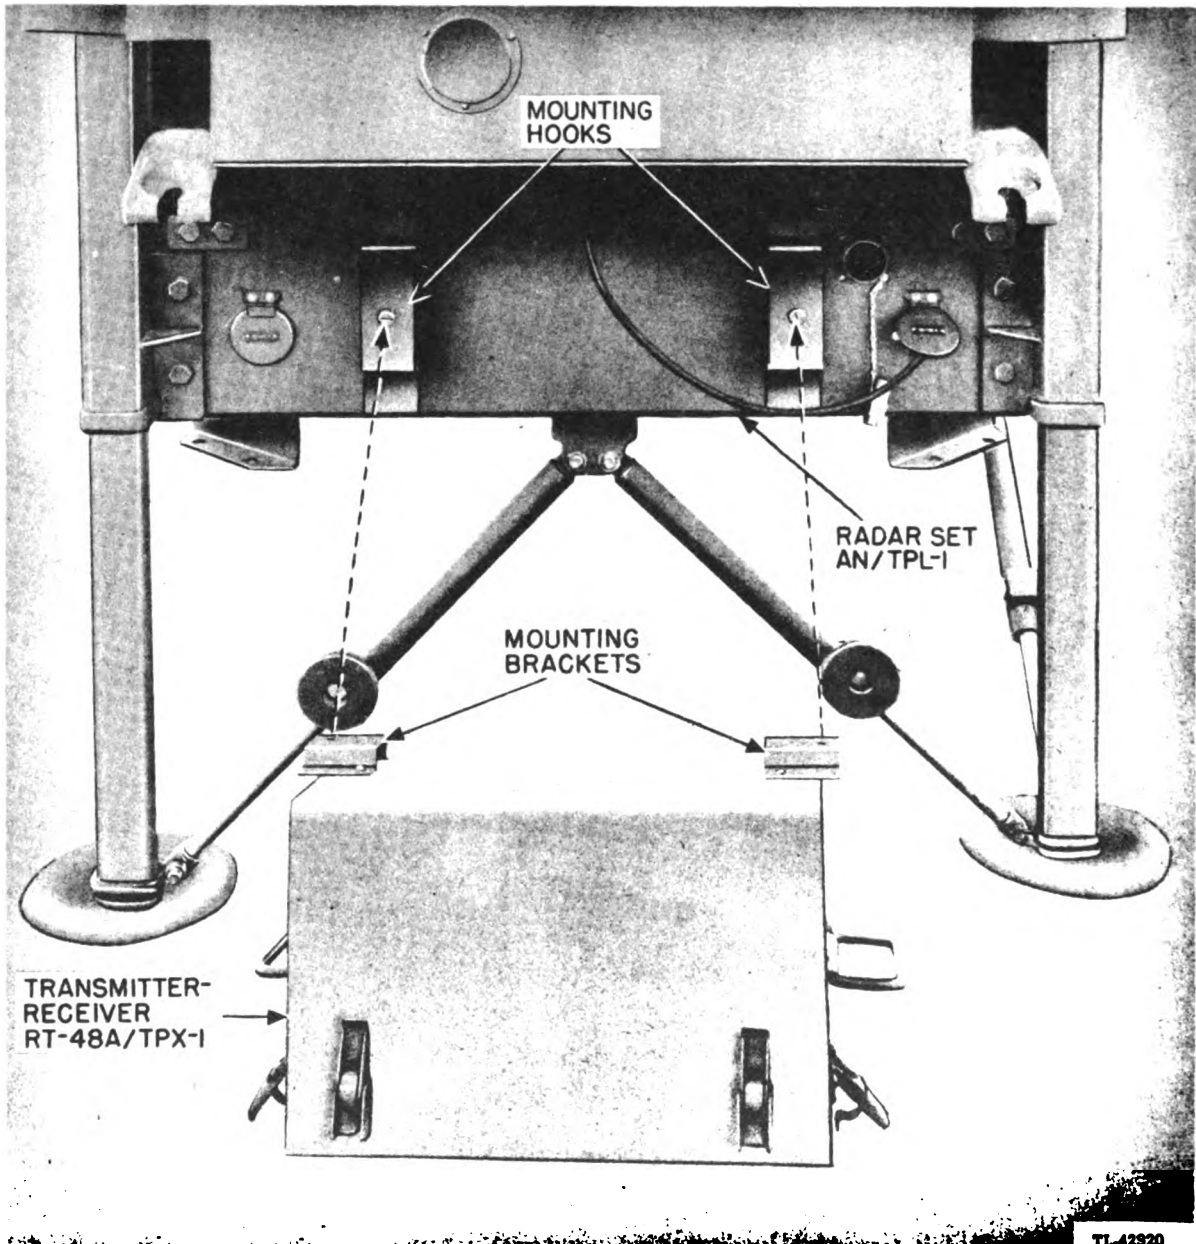

Figure 17. Transmitter-Receiver RT-48A/TPX-1, ready for installation on Radar Set AN/TPL-1.
(5) Remove the cap from the knob on top of the remote drive. Push in on the knob and turn until the azimuth dial reads the same as the dial on the tower. Replace the cap.
b. Screw the mounting bracket and bumpers on the hooks provided on the side of Radar Set AN/TPL-1 (fig. 17).